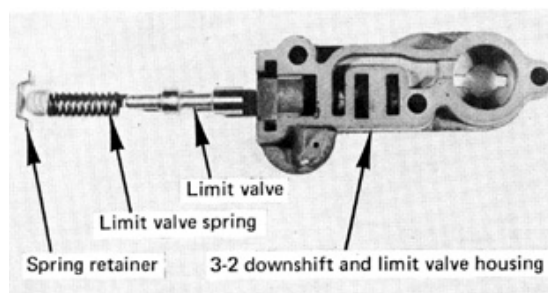

FIGURE 21
STEP 18. Limit Valve Spring: Some '71 and later 727 units have a part throttle kick-down assembly located in the end plate and housing previously removed to expose the shift valves. (See Fig. 21.) By installing the special black spring supplied with the kit, you can limit the operation of the valve to below 35-40 mph. This is recommended for all camper type vehicles, police and taxi use. Remove retainer and stock spring. Install black spring and retainer as removed.